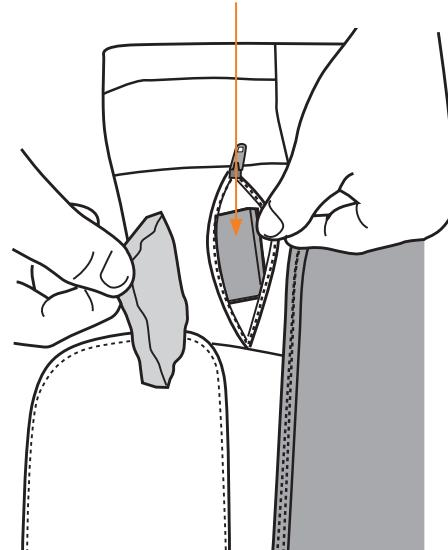

Fig.10
2. Unzip the pocket and remove the foam square (Fig.10).